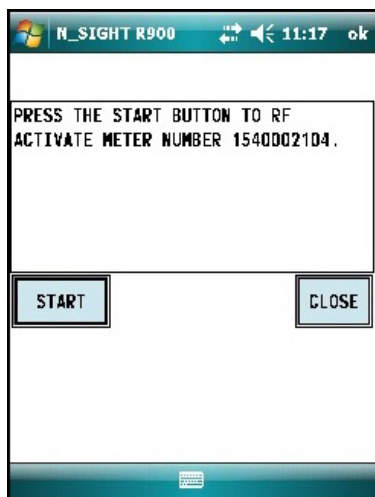

Figure 55 Start Button
- 1 Click **START** to initiate RF activated data logging. See Figure 55.